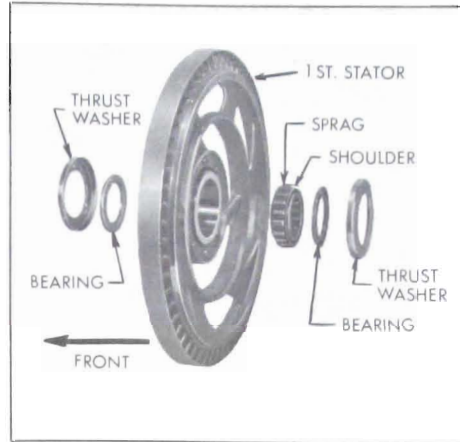

Figure 5-46—First Stator Parts
4. Pry off the cupped thrust washers and remove the first stator bearings and sprag assembly. See Figure 5-46.
11. Lay first stator on bench with thick edge of blades up. Refer to Figure 5-46, then place first stator sprag in hub of first stator with shoulder up. Install one